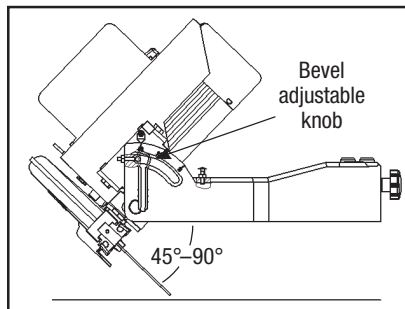
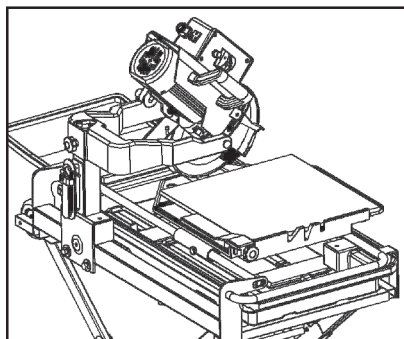

FIGURE 21
FIGURE 22
STEP 3: Loosen the *bevel adjustable knob* on the *bevel support arm* (FIGURE 21), found at the back of the *motor head*, to adjust the guide by tilting the head (FIGURE 22) to 22.5° or 45° angle. Make sure the blade aligns with the angle slot provided on the cutting table.